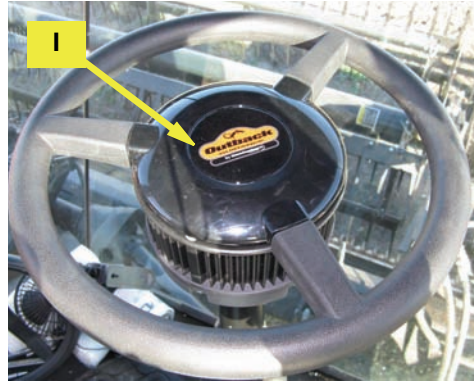

Figure 5c: Installed center cap
d. Install Outback center cap **I** (Figure 5c).